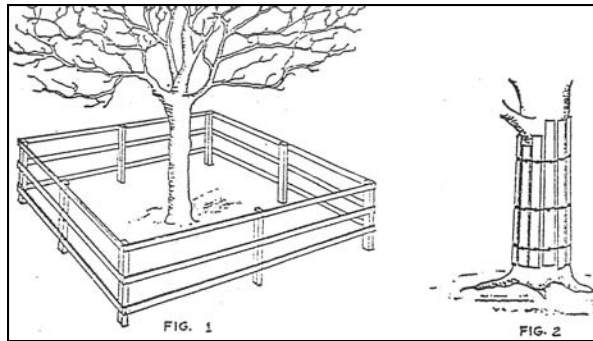

Figure 1 – Tree Protection
- .2 During demolition and construction work, the area beneath the drip line shall be enclosed and protected by a fence - see figure 1.